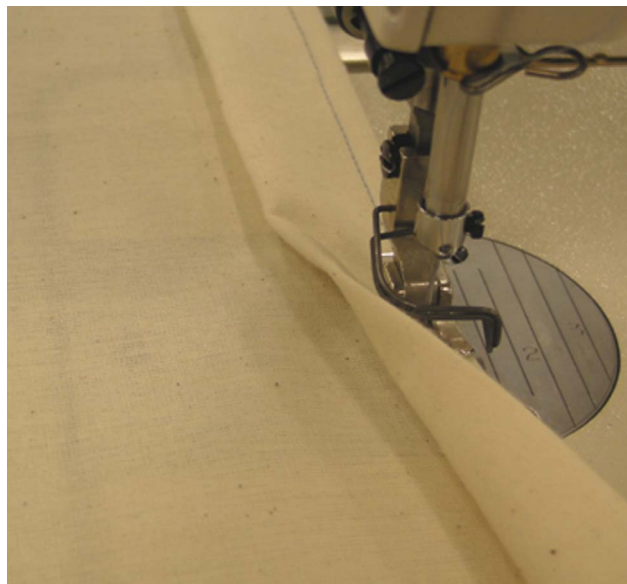

Figure 10
1. The folds in the grown-on front edge are indicated with notches. Fold the fabric at the notches and stitch the first row of stitching using the Lockstitch (301). This row of stitching will form a pleat. See Figure 10, Stage One.